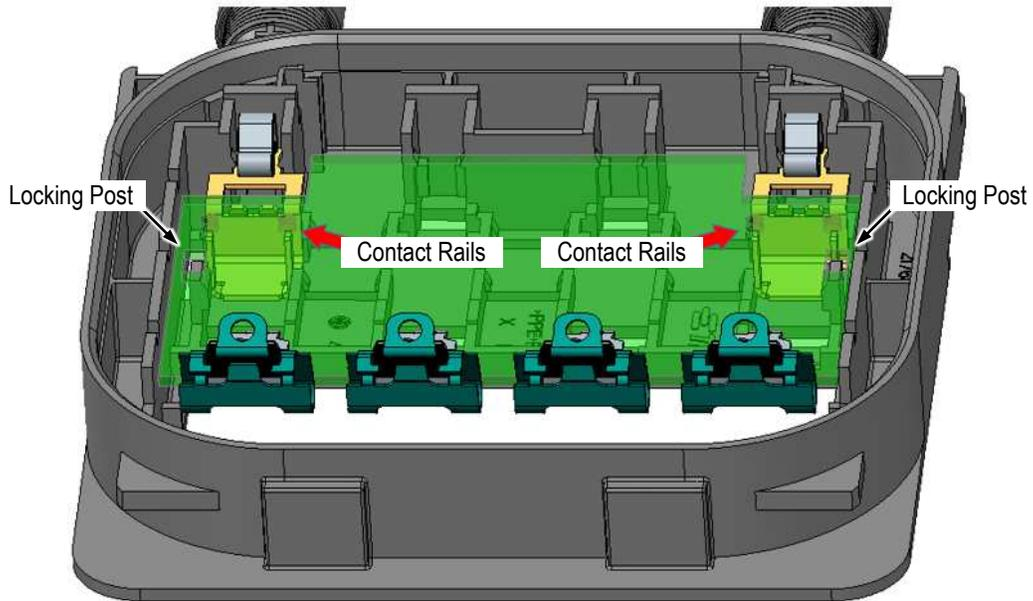

Figure 4
3. Align the soldering holes of pc board with the contact rails of the enclosure and the locking slots of pc board with the locking features of the enclosure. See Figure 4.